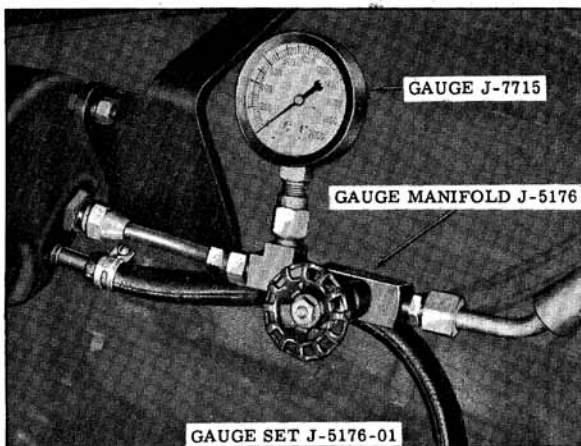

Fig. 8-122 Oil Pressure Gauge
| <p>2. Low oil in reservoir. (P.S.)</p> <p>3. Lack of lubricant in ball joints or steering linkage.</p> <p>4. Tires not properly inflated.</p> <p>5. Insufficient oil pressure. (P.S.)</p> | <p>2. Fill to proper level. If excessively low, check all lines and joints for evidence of external leakage.</p> <p>3. Add lubricant.</p> <p>4. Inflate to recommended pressure.</p> <p>5. If all of the above checks do not reveal the cause of hard steering, make the following tests of oil pressure.</p> <p>a. Disconnect the pressure line at pump, then install Gauge Set J-5176-01. (Fig. 8-122)</p> <p>b. With engine at slow idle and gauge valve open, note the oil pressure on the gauge while turning steering wheel from one extreme position to the other. Especially note the maximum pressure which can be built up with the wheel held in either right or left extreme position.</p> <p style="padding-left: 40px;">CAUTION: Do not hold wheel in extreme position for an extended period of time because it will drastically increase the oil temperature and will cause undue wear on the pump.</p> <p>c. With oil temperature between 150° F. and 170° F. (measured with a thermometer in the reservoir) oil pressure should not be less than 1,000 psi for satisfactory power steering operation. (Fig. 8-122)</p> <p>d. If the maximum oil pressure is less than 1,100 psi, it indicates trouble in the pump, hoses, steering gear, or a combination of these parts. To eliminate the hoses and gear, close the gauge valve and quickly test pressure of the pump only with the engine at slow idle, then open the valve to avoid increasing oil temperature.</p> <p>e. Comparing the maximum pressure obtained in these two tests will indicate source of trouble as follows:</p> <p>(1) First test (step b) pressure low, and second test (step d) pressure normal - indicates faulty hoses or steering gear.</p> |